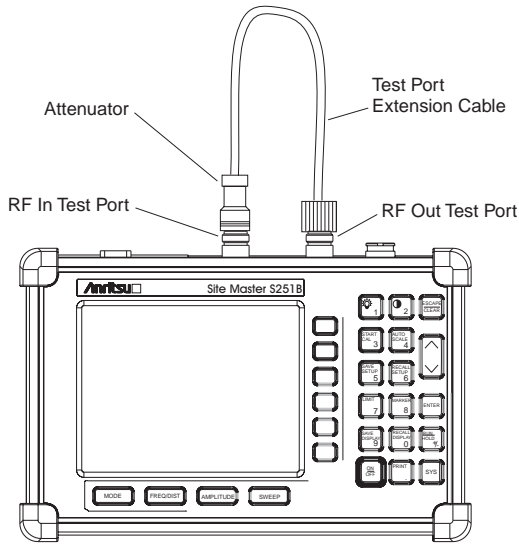

Figure 4. Test Setup
19. Connect the 10 dB attenuator to the RF In Test Port (refer to Figure 4) and verify that the reading is $-10 \text{ dB} \pm 2.25 \text{ dB}$ @ 1000 MHz.